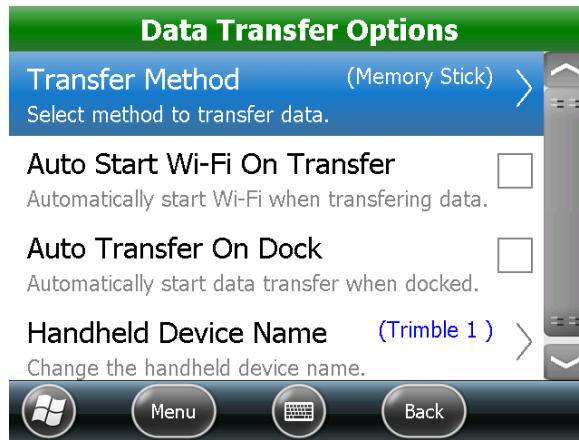

Figure 114: Data Transfer Options
*Result: The Transfer Method screen closes automatically and the method you selected displays in the Transfer Method field on the Data Transfer Options screen. See Figure 114.*